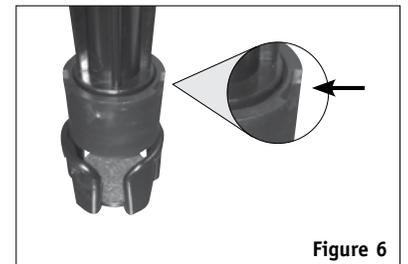

Figure 6
2. The two clamps on the filter cap must fit precisely in the slots on the opposite side of the air exhaust opening (**Figure 6**).